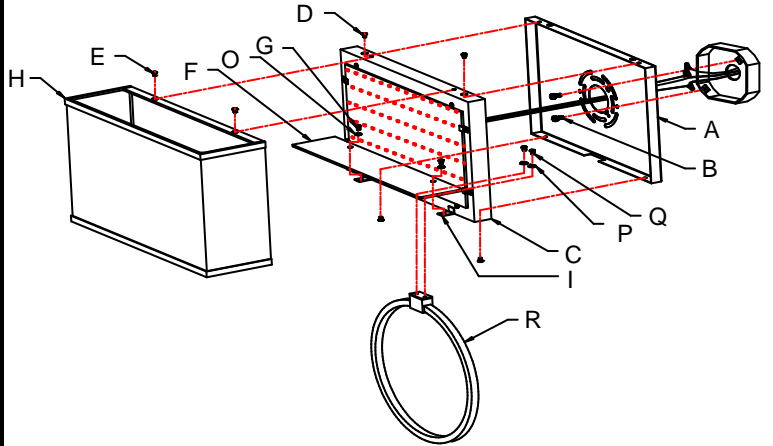

Fig. 2
CONNECTING THE WIRES (FIG. 2)
5. At this point, connect the electrical wires as shown in Fig. 2, making sure that all wire connectors are secured. If your outlet has a ground wire (green or bare copper), connect the fixtures ground wire to it. Otherwise, connect the fixture ground wire directly to the mounting plate (A) using the green screw provided. After wires are connected, tuck them carefully inside the junction box.
6. Align fixture back plate (C) onto mounting plate (A) and secure with screws (D).